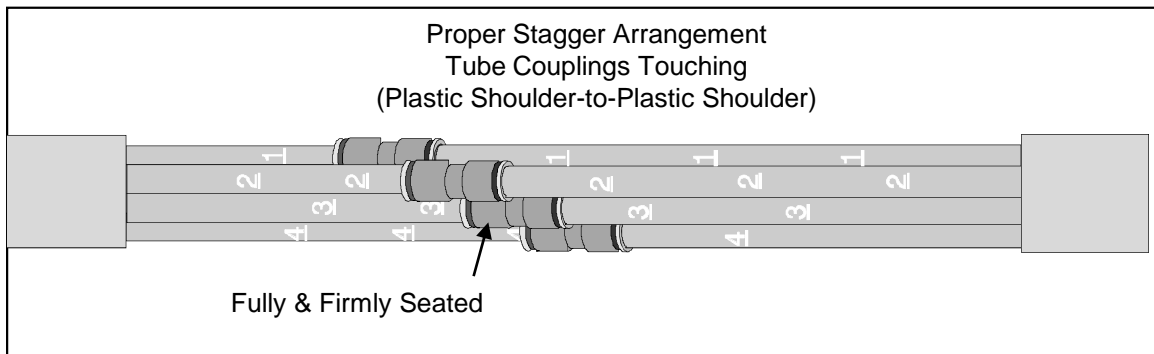

Figure 12
8.2 Connect tube cable ends together by first coupling tube with highest number to its mate. Then continue coupling tubes in descending numerical sequence. Be sure each tube is pushed all the way into its coupling and fully and firmly seated. **See Fig. 12.**